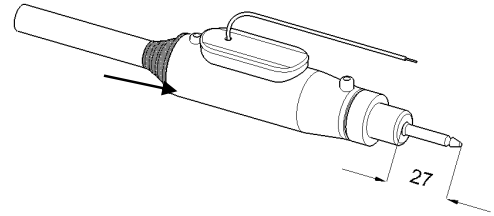

Figure 3B
Step 3: Use tool e.g. Elpress 4099 and crimp the metal pin to the cable's core conductor with a proper crimping tool (3A). Place assembled piece inside the plug elastomer housing and pass screen conducting wire out through the housing's opening, then secure end cap to housing (3B). Make the inner surfaces of the two housings free from foreign particles and moisture before pouring the resin (Step 4). Verify the nominal dimension 27 mm using the plastic gauge, tolerance area 26,6 – 27,3 mm in Fig. 3B.